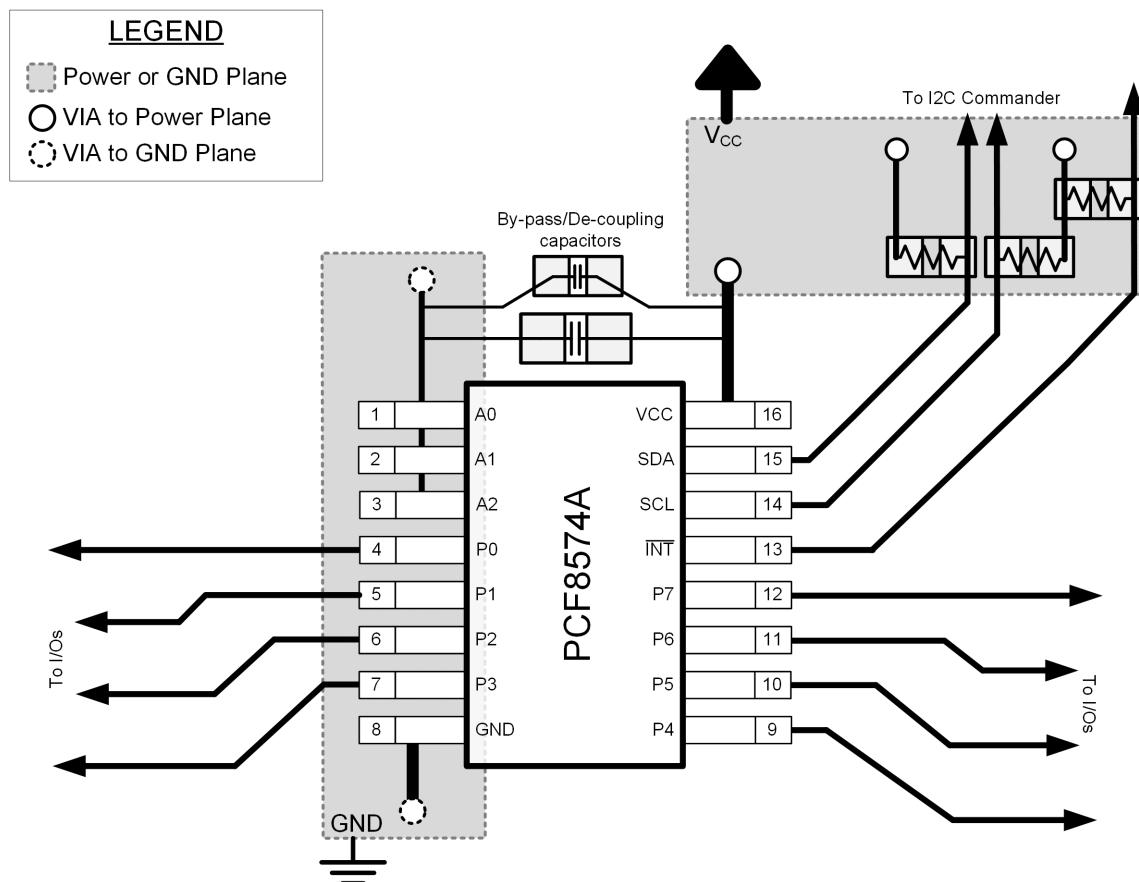

Figure 11-1. Layout Example for PCF8574A
When the I/Os are used to control LEDs, normally they are connected to V_{CC} through a resistor as shown in Figure 11-1. For a P-port configured as an input, I_{CC} increases as V_I becomes lower than V_{CC} . The LED is a diode, with threshold voltage V_T , and when a P-port is configured as an input the LED will be off but V_I is a V_T drop below V_{CC} .
In all PCB layouts, it is a best practice to avoid right angles in signal traces, to fan out signal traces away from each other upon leaving the vicinity of an integrated circuit (IC), and to use thicker trace widths to carry higher amounts of current that commonly pass through power and ground traces. By-pass and de-coupling capacitors are commonly used to control the voltage on the V_{CC} pin, using a larger capacitor to provide additional power in the event of a short power supply glitch and a smaller capacitor to filter out high-frequency ripple. These capacitors should be placed as close to the PCF8574A device as possible. These best practices are shown in Figure 11-1.
For the layout example provided in Figure 11-1, it would be possible to fabricate a PCB with only 2 layers by using the top layer for signal routing and the bottom layer as a split plane for power (V_{CC}) and ground (GND). However, a 4 layer board is preferable for boards with higher density signal routing. On a 4 layer PCB, it is common to route signals on the top and bottom layer, dedicate one internal layer to a ground plane, and dedicate the other internal layer to a power plane. In a board layout using planes or split planes for power and ground, vias are placed directly next to the surface mount component pad which needs to attach to VCC or GND and the via is connected electrically to the internal layer or the other side of the board. Vias are also used when a signal trace needs to be routed to the opposite side of the board, but this technique is not demonstrated in Figure 11-1.